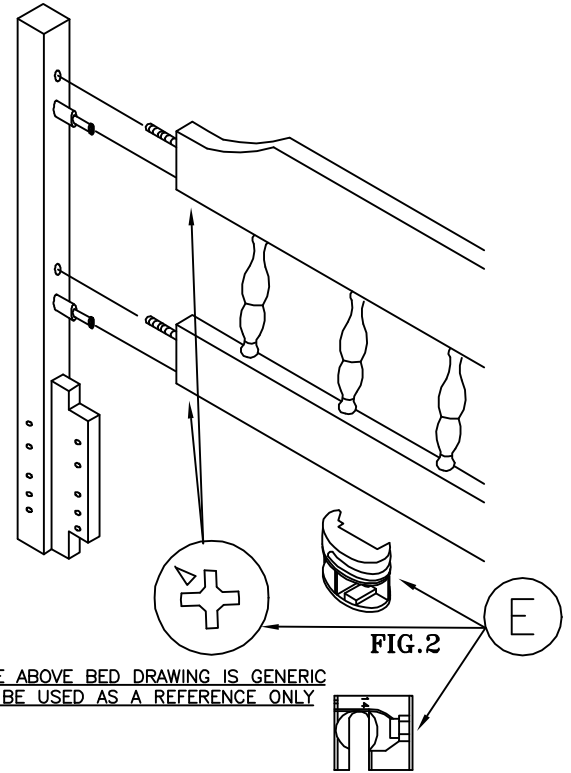

FIG. 2
Now Align holes 1st and 3rd in post (9) with wood dowels from panel. Attach grill to post and tighten by turning locking housing clockwise. (See Fig. 2) Do the same for other post.